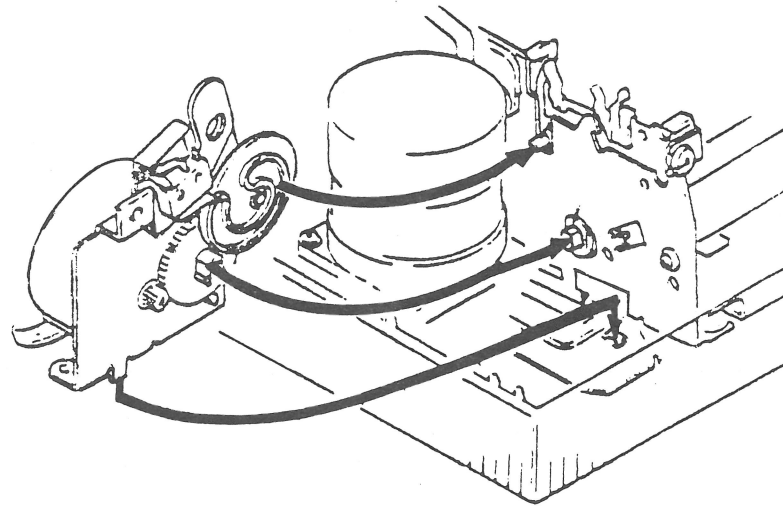

FIGURE 55
4. Put the tab shown in Figure 55 into the groove of the left gear cam.